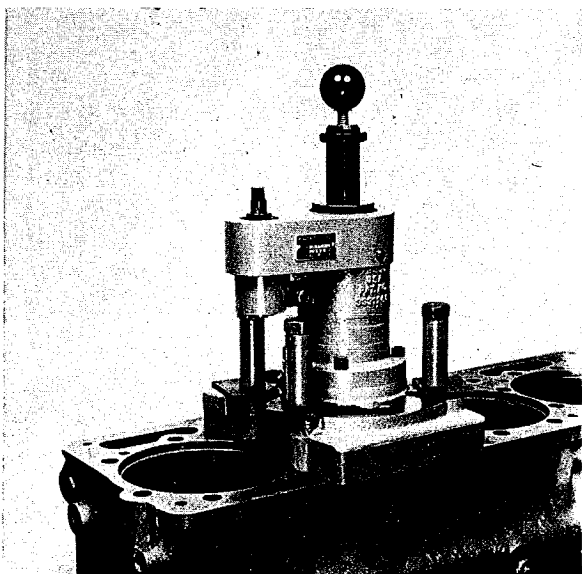

Fig. 6 Porta-Bore on Block
6. Loosen needle valve knob (18) and push main shaft down until cutter barely contacts preset collar (13) on the depth setting shaft (14). Adjust depth set collar (19) on the spline shaft to "bottom-out" on top of boring machine. Tighten socket set screw on depth set collar.
7. Remove depth setting shaft (14).
8. Pull upward on needle valve knob (18) to raise the main shaft all-the-way up and turn knob to right all the way to close the needle valve.
10. Lower unit into counterbore with tapered alignment ring (1 or 2) engaging counterbore. Fig. 6.